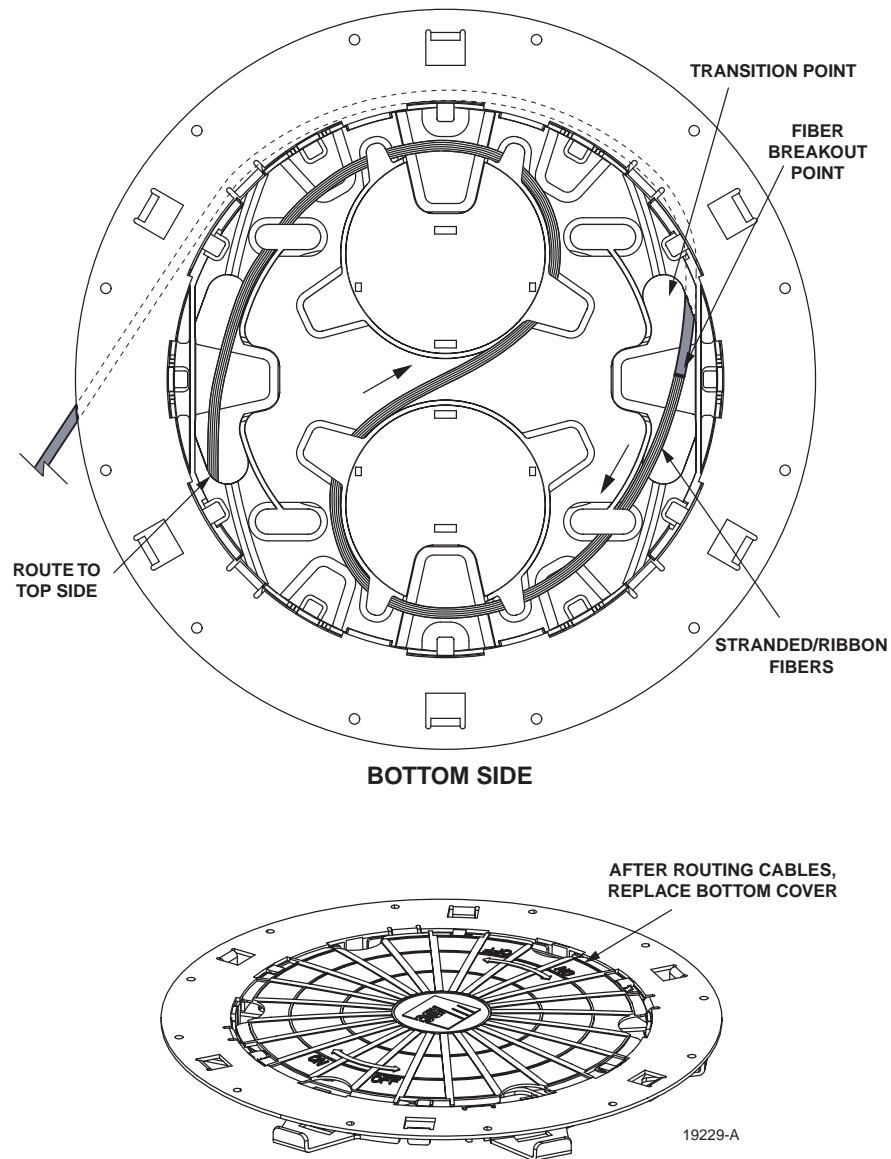

Figure 30. Routing Subunit A Around Back Side of Splice Tray
5. Turn the tray over and continue routing the breakout fibers around the spools as shown in Figure 30 and then back to the top side of the splice tray.